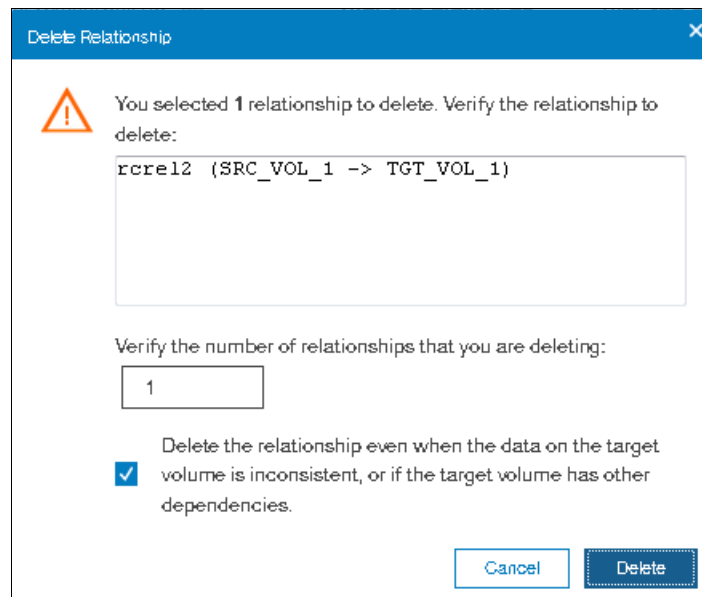

Figure 10-152 Delete remote copy relationship
4. The Delete Relationship window opens (Figure 10-152). In the “Verify the number of relationships that you are deleting” field, enter the number of volumes that you want to remove. This verification was added to help to avoid deleting the wrong relationships. Click **Delete**.